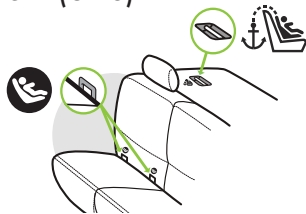

Figure 30
- UAS stands for Universal Anchorage System. This term refers to the anchors built into a vehicle for attaching child restraints and consists of two lower anchors at the crease between the vehicle seat back and vehicle seat cushion and a top tether anchor behind the vehicle seat as shown in **Figure 30**.